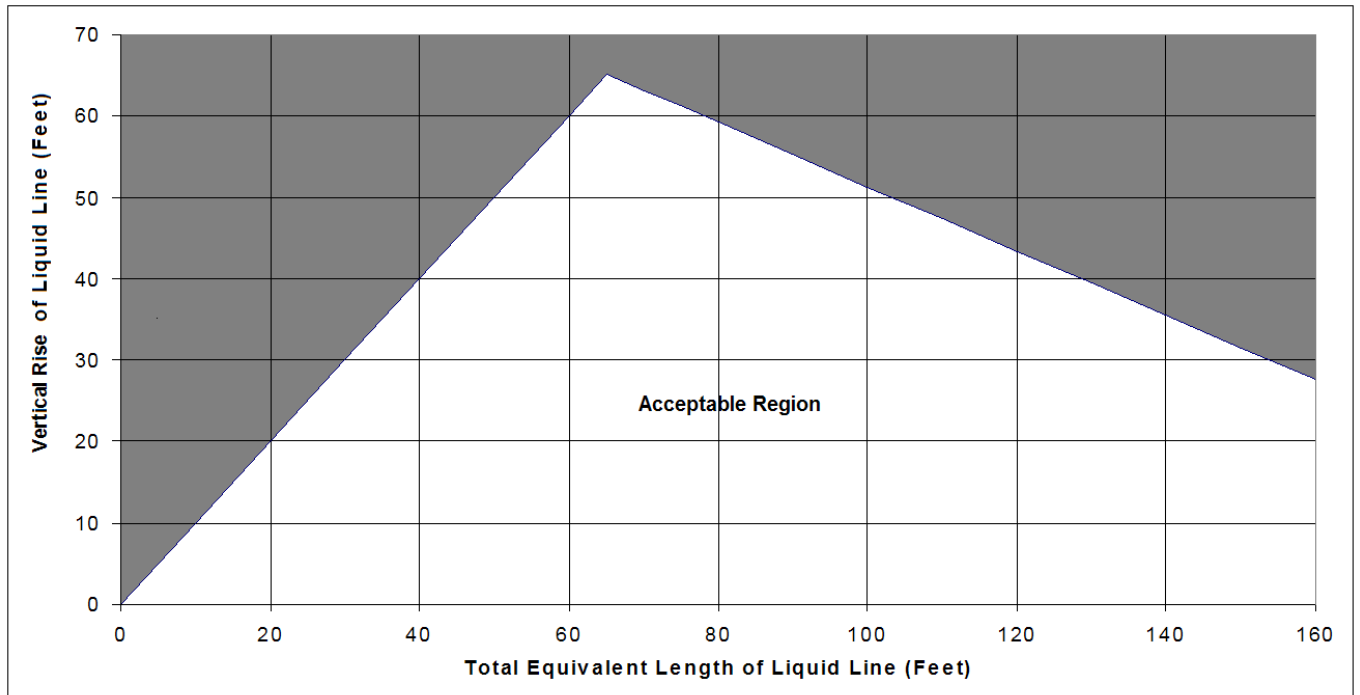

Figure 12 - Riser height versus total equivalent line length
**Note:** Figure 12 is for R-410A split system applications with two step compressor CB-024 through CB-060 units. The region of acceptable riser height is the lighter area. Select the corresponding predetermined line size from Table 6 above.